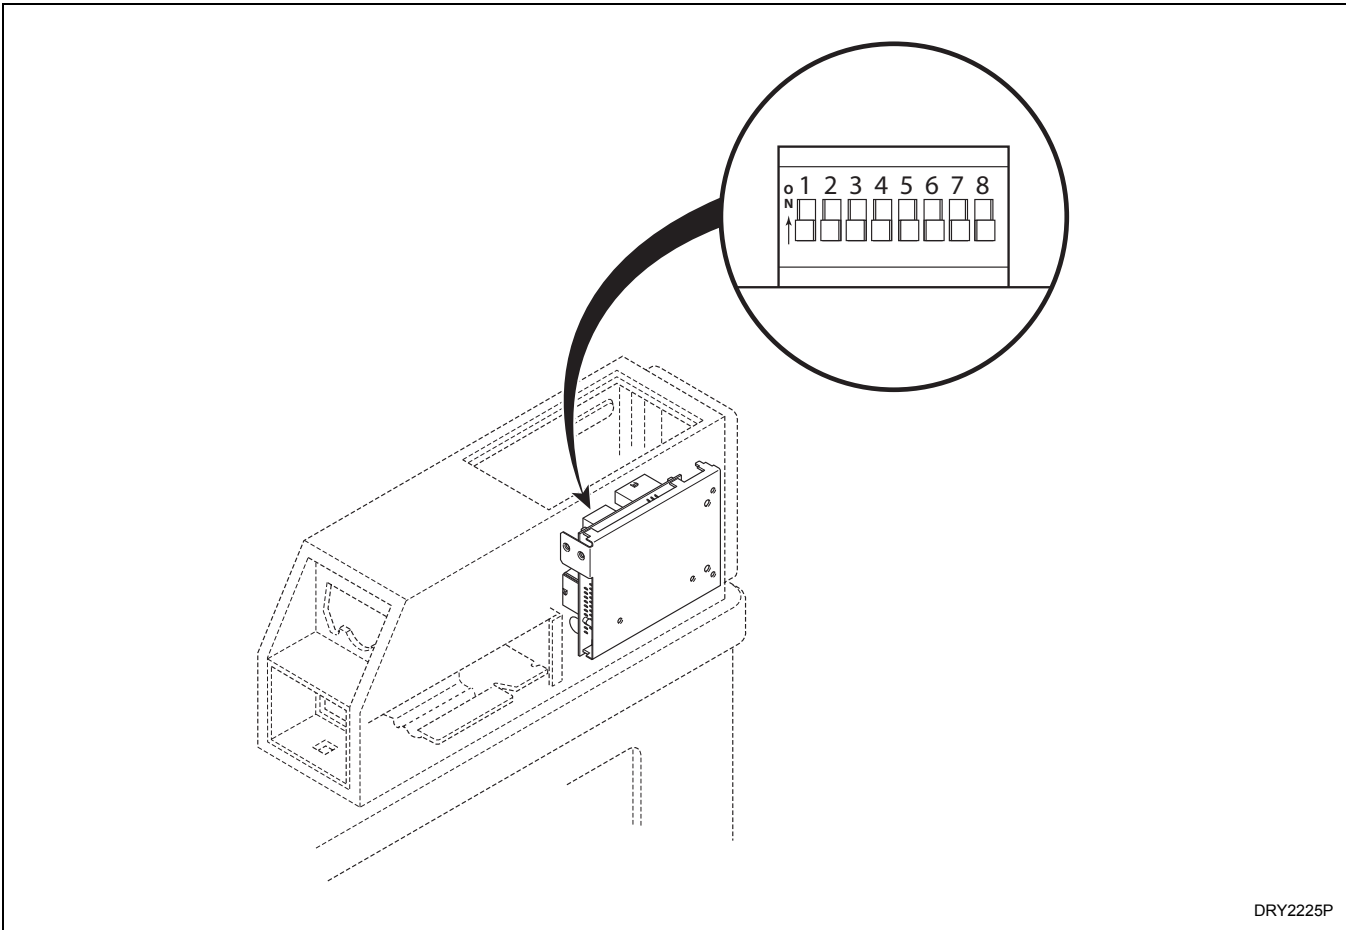

Figure 23
2. Record the machine control dipswitch settings. Then set them all to the off position. Refer to *Figure 23*.